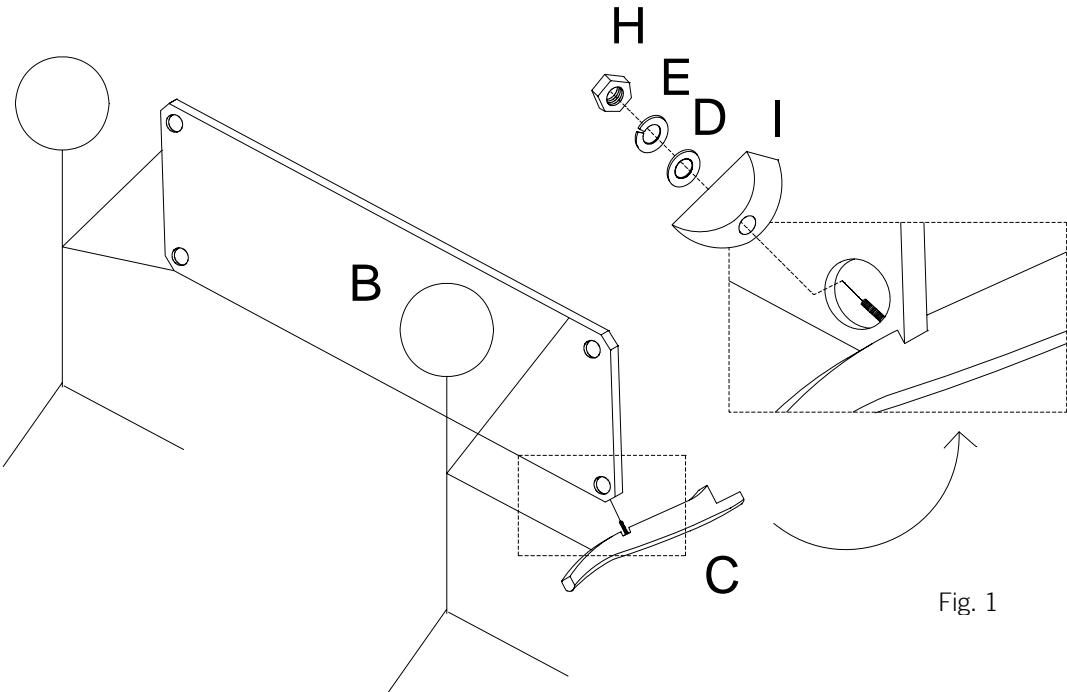

Fig. 1
1. Insert the hanger bolt pre-connected to the leg (C) into the pre-drilled corner hole of the shelf (B). Insert fitting (I), flat washer (D), lock washer (E), and nut (H) into the bolt. Use hand to secure. DO NOT FULLY TIGHTEN AT THIS TIME. (Fig. 1)